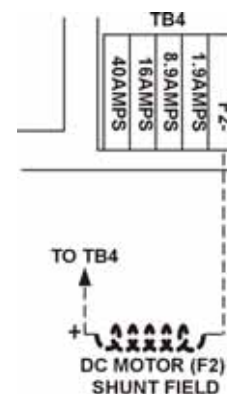

Figure 3-7
- The third circuit is to bring power to the Motor Fields. These 2 wires can be run with the motor wires. Verify Dipswitches are set for proper Motor Field Current. [See Wiring Diagrams and Figure 3-7.]